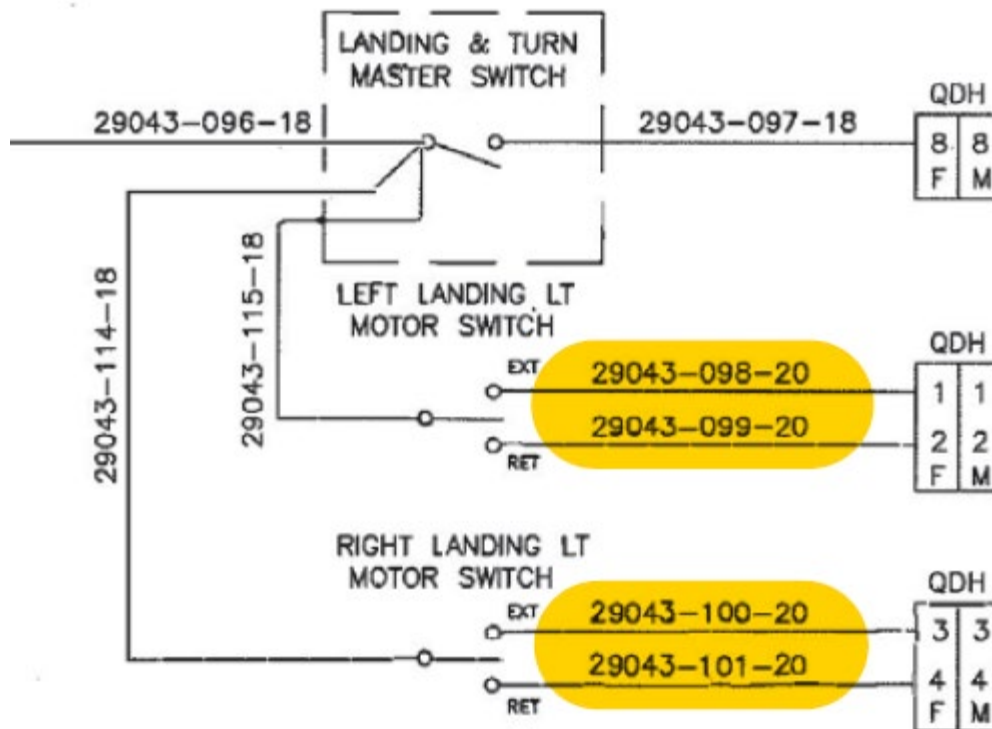

Figure 17: Left and Right Landing Light Switch Wires
22. Connect 29043-098-20, 29043-099-20, 29043-100-20 and 29043-101-20 wires as shown in Figure 17.